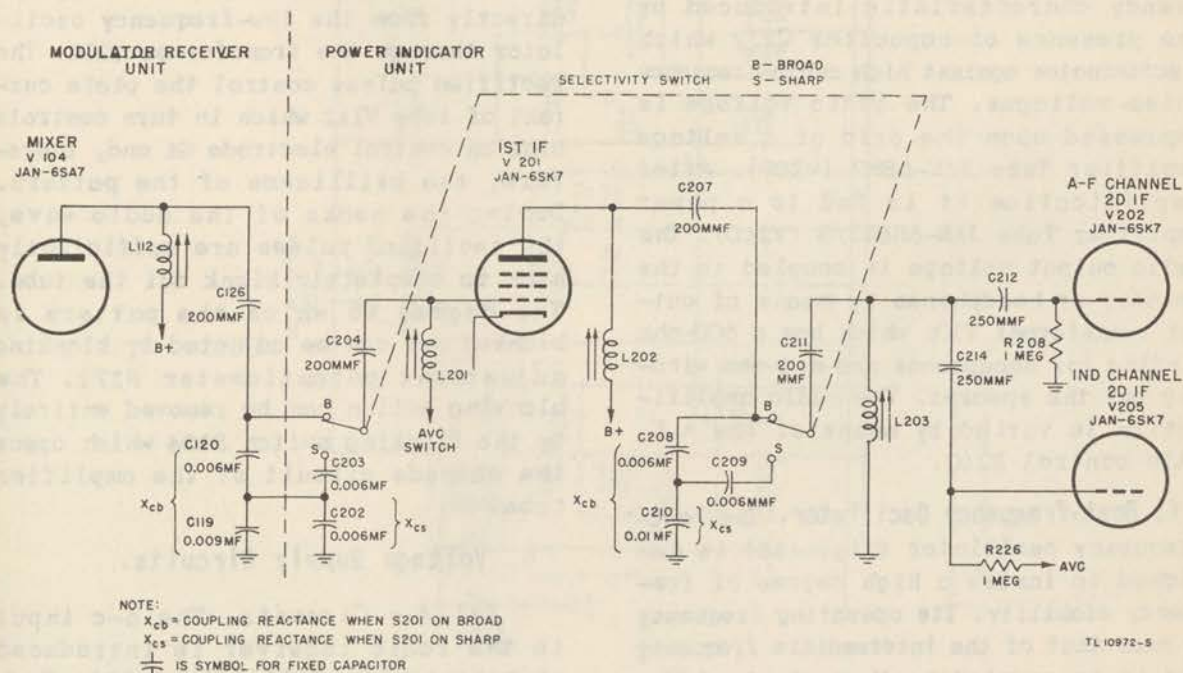

Figure 85. Functional diagram of i-f section.
d. I-f Amplifier. Two stages of i-f amplification are used (fig. 85). After amplification in the first stage (tube V201), the i-f signal is split into two channels: one feeds the audio channel, and the other feeds the indicator channel. This separation is required so that the beat-frequency oscillator, used for reception of c-w signals, produces an audible signal from the speaker or earphones without appearing as modulation on the azimuth patterns obtained. The degrees of selectivity (broad and sharp) are obtained